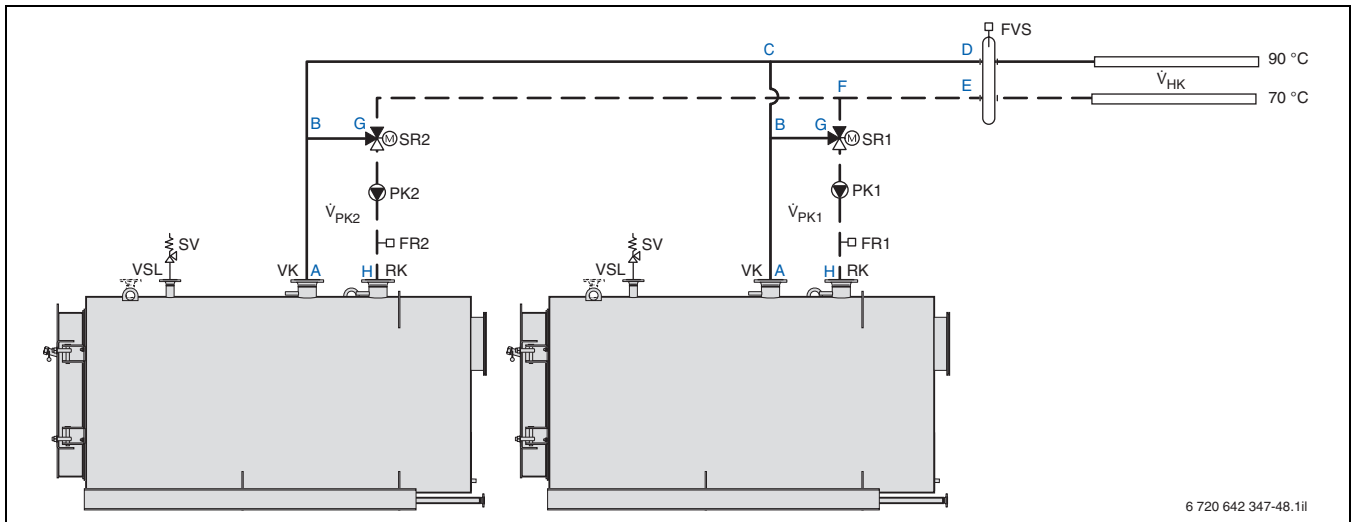

Fig. 57 Example of a hydraulic circuit for a 2-boiler system with boiler circuit pump as primary circuit pump for Logano S825L/L LN or Logano plus SB825L/L LN
- All individual pressure drop levels in the boiler circuit (path: A–D–E–H, → Fig. 57)
(paths: C–D and E–F, → Fig. 57)
(paths: A–C, B–G and F–H, → Fig. 57)